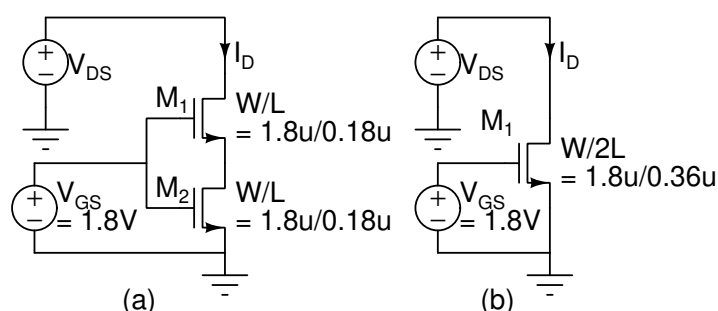

Figure 1
4. Plot $I_D - V_{DS}$ for the two cases shown in figures 1(a) and (b). Explain why a W/2L transistor does not behave in exactly the same way as a series combination of two W/L transistors for small values of L.